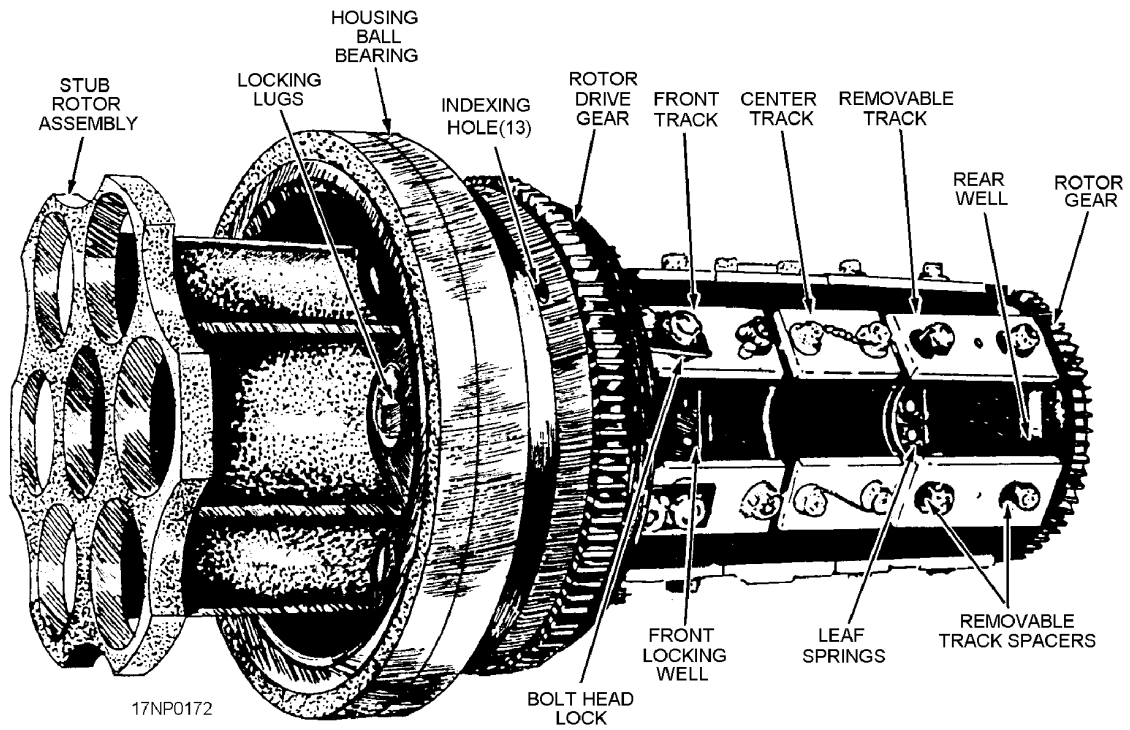

Figure 6-4.—Rotor assembly.
**Rotor assembly.** The rotor assembly (fig. 6-4) is a major unit of the M61A1 gun. The front section or stub rotor supports the six barrels. The main body of the rotor assembly contains the rotor tracks, rotor drive gear, and the locking lugs to lock the barrels in place.